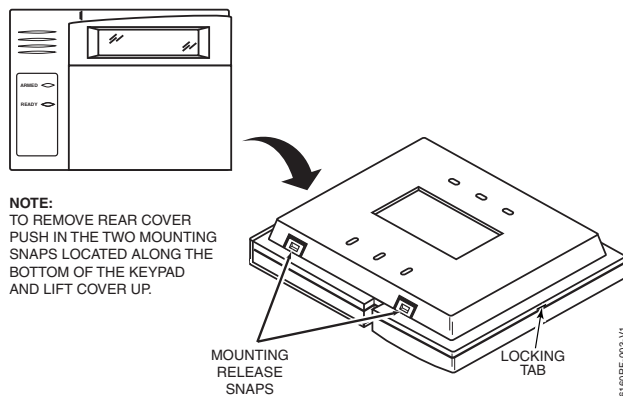

Figure 1. Removing the Case Back
1. Push the two case release snaps at the bottom of the keypad with the blade of a medium screwdriver (this will push in the release snap), then pull that side of the case back away. Insert the screwdriver in the side of the keypad (between the front and back case) and gently twist to release the side locking tab. Repeat for the other side. Refer to Figure 1 for location of the case back release snaps and locking tabs.